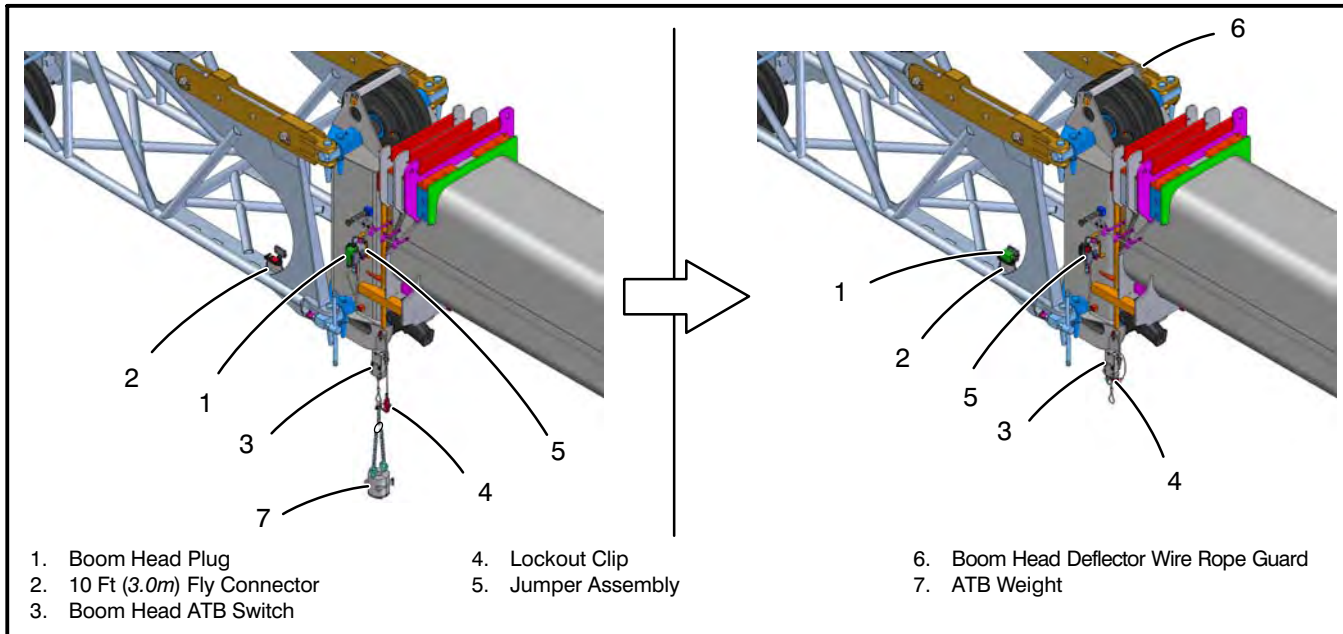

Figure 4–109
10. Remove all wire rope guards from the fly and boom head deflector sheaves. Refer to Figure 4–108 and Figure 4–109. Reeve the winch wire rope over the boom deflector sheave, then on the fly base deflector sheave.